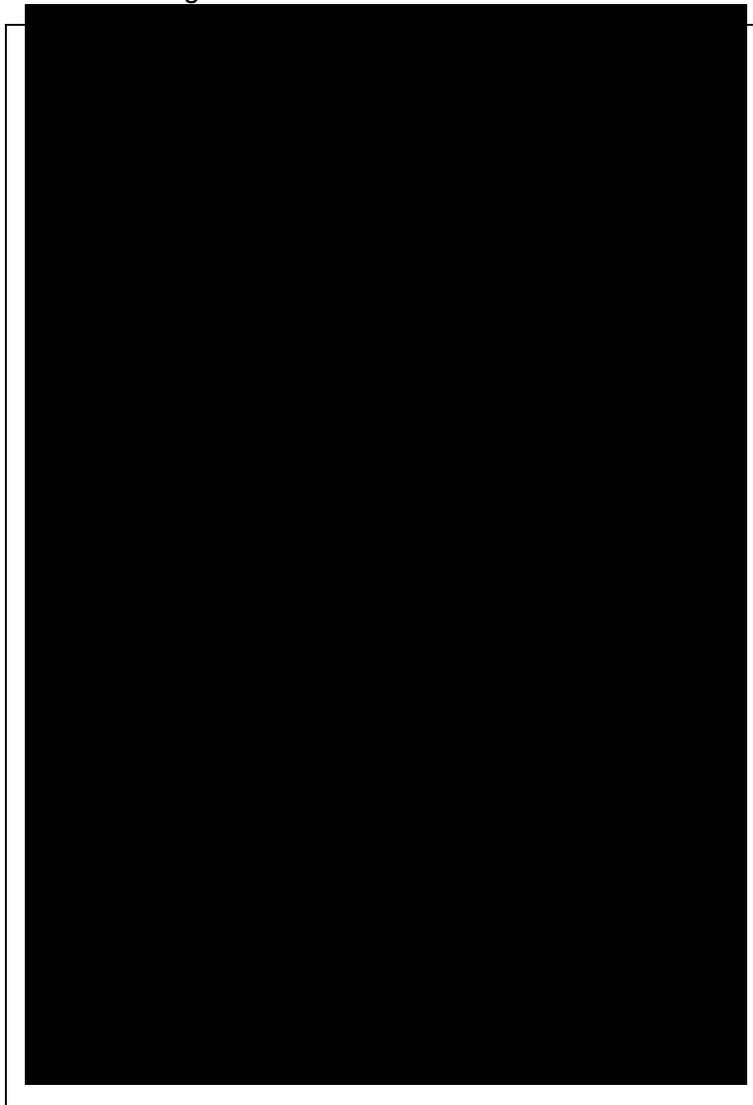

Figure 3
Step 3 – Align the controller enclosure so the back of the enclosure is flush to the back of the pedestal base. See Figure 3.